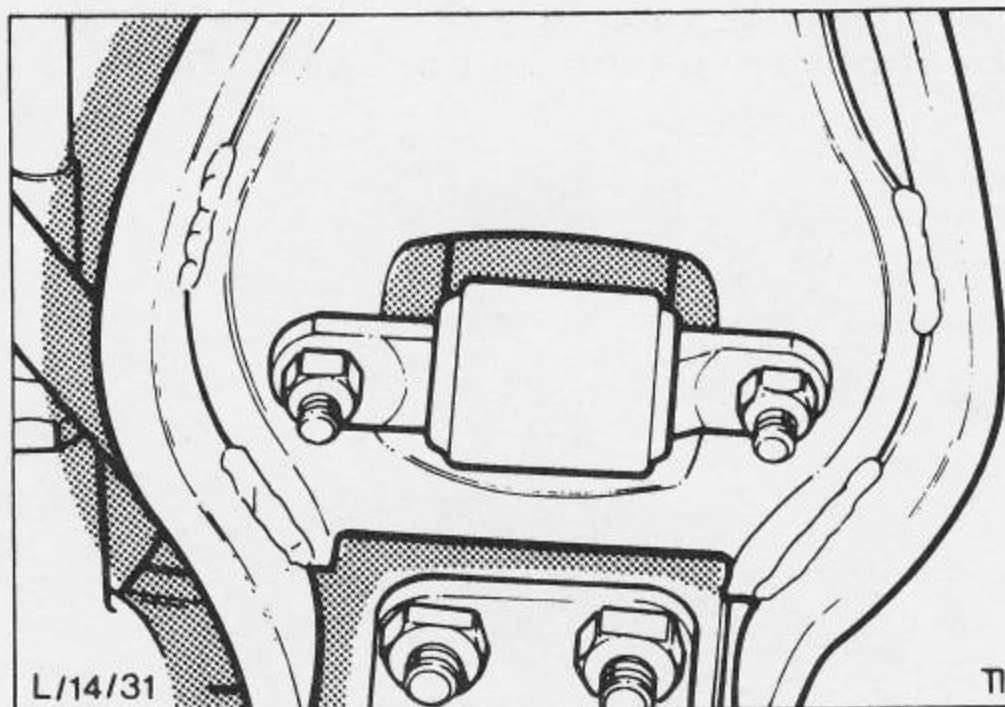

Fig. 46 Shock absorber lower mount.
13. Remove spring compressor and refit shock absorber tightening upper mount nut and locknut. Fit and tighten lower mounting nuts to 12 - 15 Ft. Lbs. Fig.46